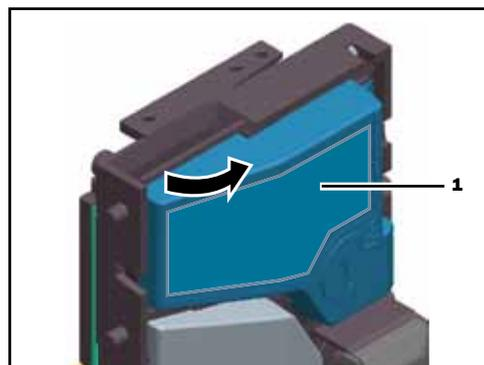

Fig. 12: Unfolding the flight deck of the coin validator
- 2 Carefully unfold the flight deck [Fig. 12/1] on the left-hand side of the coin insert funnel and hold it open.